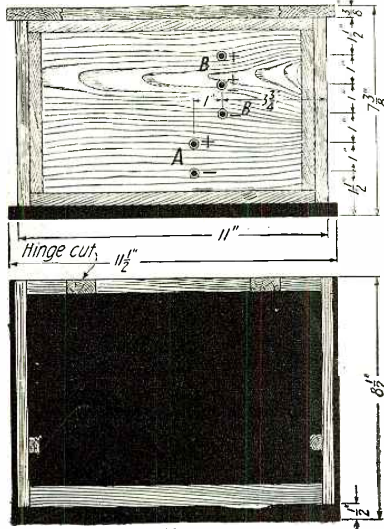

Fig. 4
Should the builder desire to economize, he can build his own cabinet. Dimensions for it will be seen in Fig. 4. Also, since this set was constructed, radio materials have flooded the market and prices noted above can nearly always be beaten at the present time.
The cabinet shown in Fig. 4 was made of  $\frac{3}{8}''$  oak, mission finish, measuring  $7'' \times 11''$  by  $8\frac{1}{2}''$  deep. This matches perfectly with the novel short-wave regenerator unit previously described; in fact, it is the same cabinet except that it is  $11''$  instead of  $18''$  wide. Fig. 4 gives all important dimensions and shows the locations on the back for the battery binding posts.
The battery binding posts are shown schematically in Fig. 3 in vertical rows, as they are shown in the cabinet plan in Fig. 4. With this scheme of battery binding post arrangement it will be found easy to make all battery connections. Beginning at the top we have respectively: (1) Positive terminal of plate battery; (2) Terminal for  $22\frac{1}{2}$  detector plate voltage tap; (3) Negative terminal of plate battery; and below and in a line to one side; (4) Positive terminal of storage battery; and (5) Negative terminal of storage battery. This gives as a simple rule to follow when hooking on batteries; namely, high voltage at top—low